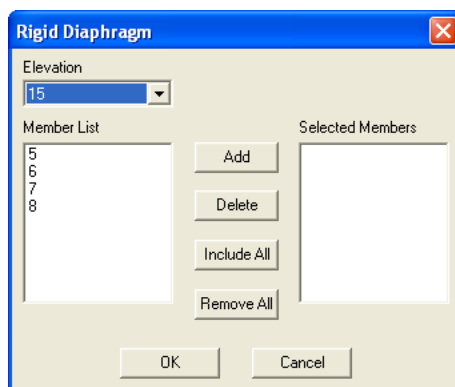

Figure 3-29 Rigid Diaphragm dialog box
- From the **Process** menu, select **Rigid Diaphragms**. The dialog box of Figure 3-29 appears. spFrame automatically sorts the already defined members and groups all horizontal members that have the same Y coordinate into defined elevations. These elevations are shown in the ELEVATION drop-down list.